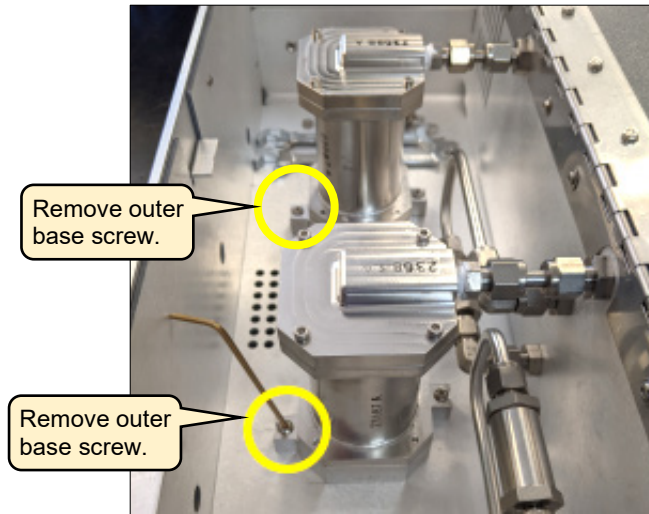

Figure 45: Removing Scrubber Housing Outer Base Screw
3. Remove the outer base screw of the scrubber housing (Figure 45).